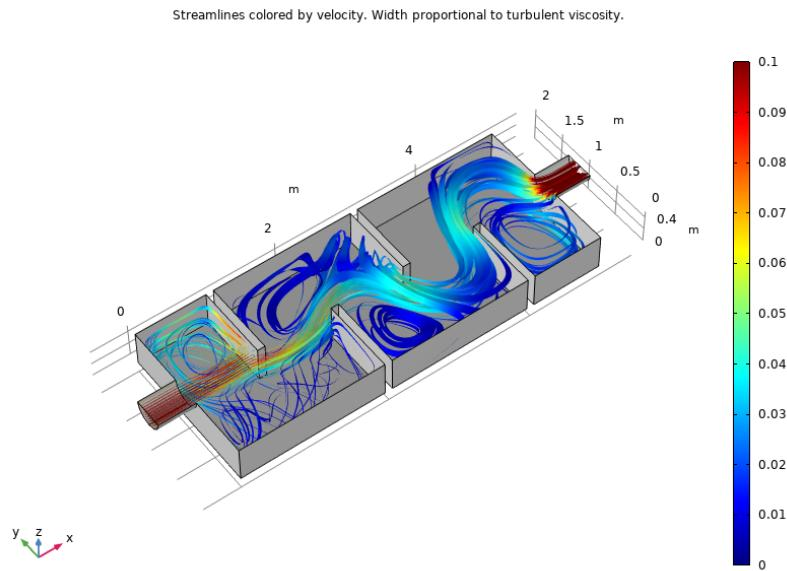

Figure 3: Streamlines colored by velocity. The width of the streamlines are proportional to the turbulent viscosity.
**Figure 3** gives a more complete picture of the mixing process in the reactor. The streamlines are colored by the velocity magnitude, and their width are proportional to the turbulent viscosity. Wide lines hence indicate high degree of mixing. The turbulence in this example is mainly produced in the shear layers between the central jet and the recirculation